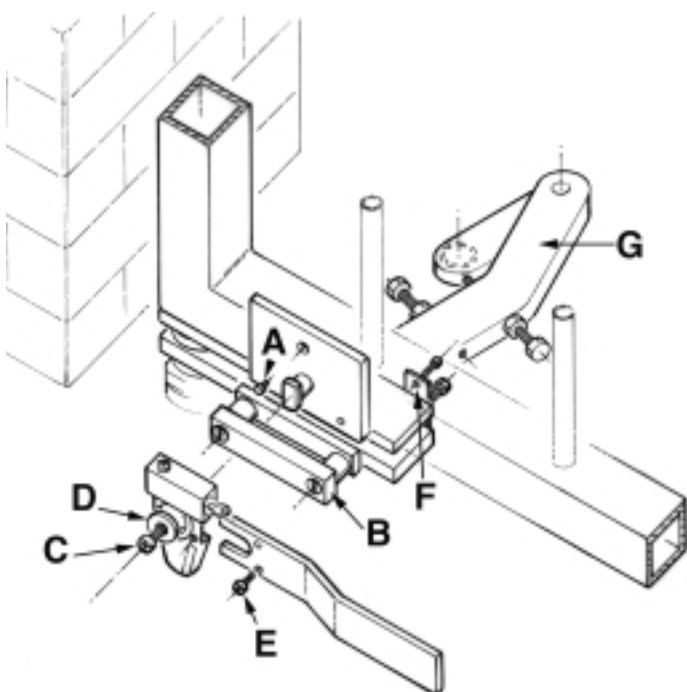

Fig. 6
- Insert the operating arm on the shaft in the box, taking care to insert the correct side, either left or right handed (see fig. 6 - 7).